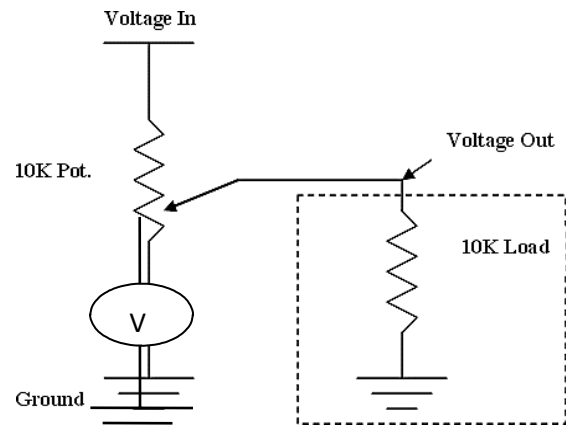

FIGURE 2
- ✓ Add a 10K resistor between the wiper (output voltage) and ground. This simulates a load on the sensor. See Figure 2.